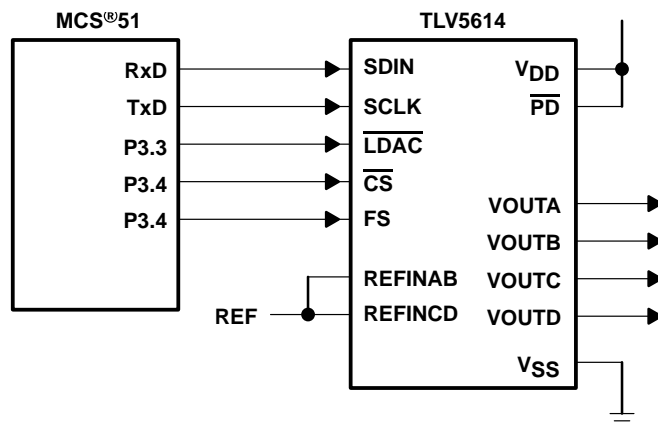

Figure 18. TLV5614 Interfaced with MCS[®]51
Figure 18 shows an example of how to connect the TLV5614 to an MCS[®]51 Microcontroller. The serial DAC input data and external control signals are sent via I/O Port 3 of the controller. The serial data is sent on the RxD line, with the serial clock output on the TxD line. Port 3 bits 3, 4, and 5 are configured as outputs to provide the DAC latch update ($\overline{\text{LDAC}}$), chip select ($\overline{\text{CS}}$) and frame sync (FS) signals for the TLV5614. The active low power down pin ($\overline{\text{PD}}$) of the TLV5614 is pulled high to ensure that the DACs are enabled.